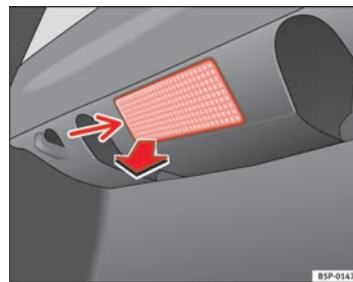

Fig. 198 Luggage compartment light
- Remove the bulb by pressing on the inside edge of this -arrow- using the flat side of a screwdriver ⇒ fig. 198. ▶